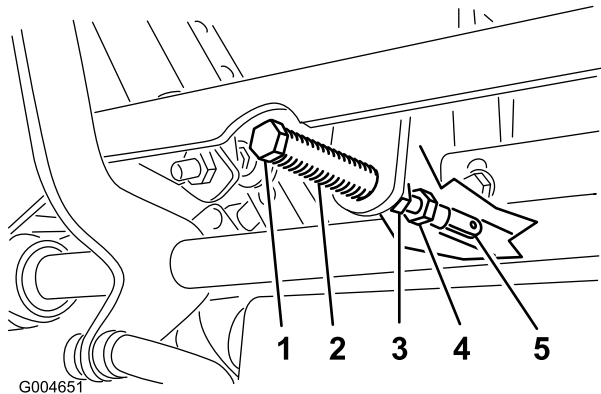

Figure 84
5. Pull the lever back until the clevis pin (on an arm above the pivot shaft) contacts the end of the slot (just beginning to put pressure on the spring) as shown in Figure 84.
7. If adjustment is needed, loosen the nut and jam nut against the yoke (Figure 84).
8. Applying slight rearward pressure on the motion-control lever, turn the head of the adjustment bolt in the appropriate direction until the control lever is centered in the NEUTRAL-LOCK position (Figure 84).
9. Tighten the nut and jam nut (Figure 84).
10. Tighten the jam nuts at the ball joints (Figure 84).